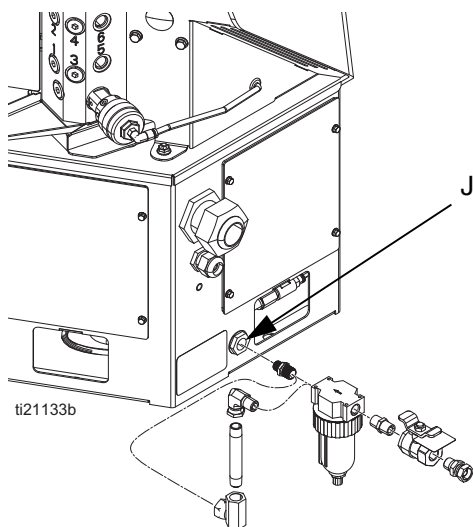

FIG. 10
9. Install the supplied air inlet bleeding ball valve and air filter kit (Graco Part No. 24R707) at the 1/4 NPT female system air inlet (J). See FIG. 10.